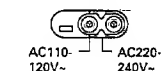

Fig. 3
3. Insert the power cord securely. See Figure 3.